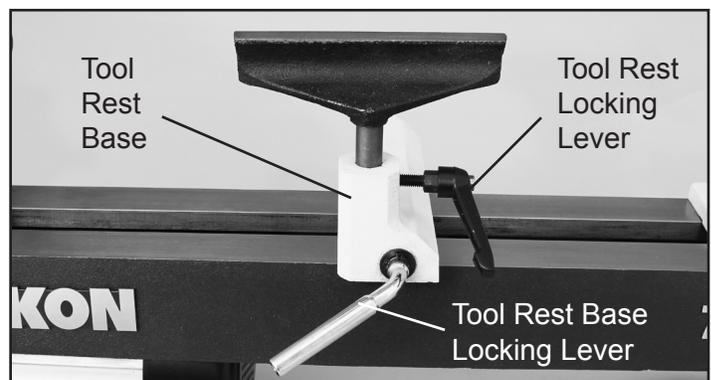

FIG. 4
2. Adjust the tool rest's height up or down to your desired position, and then secure The tool rest base in place with is locking lever. FIG. 4.